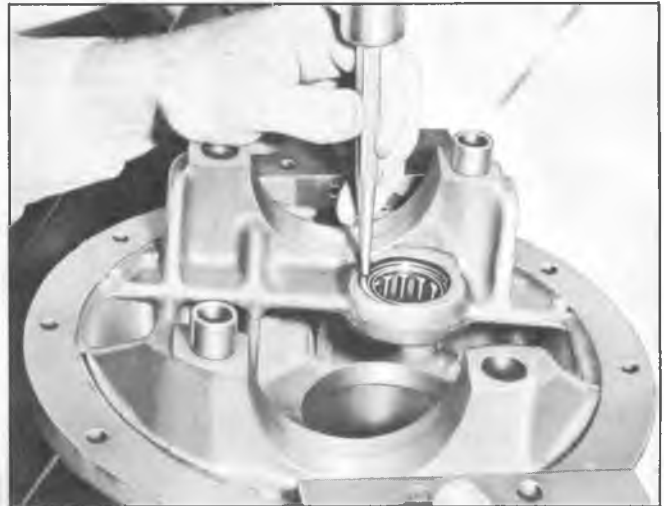

Fig. 3F--Pinion Rear Bearing Removal (Except 11,000 Lb.)
9. On all axles except the 11,000 lb., the pinion rear bearing outer race and roller assembly is pressed into the carrier. Remove assembly by driving it from its seat using a soft drift or punch as shown in Figure 3F.